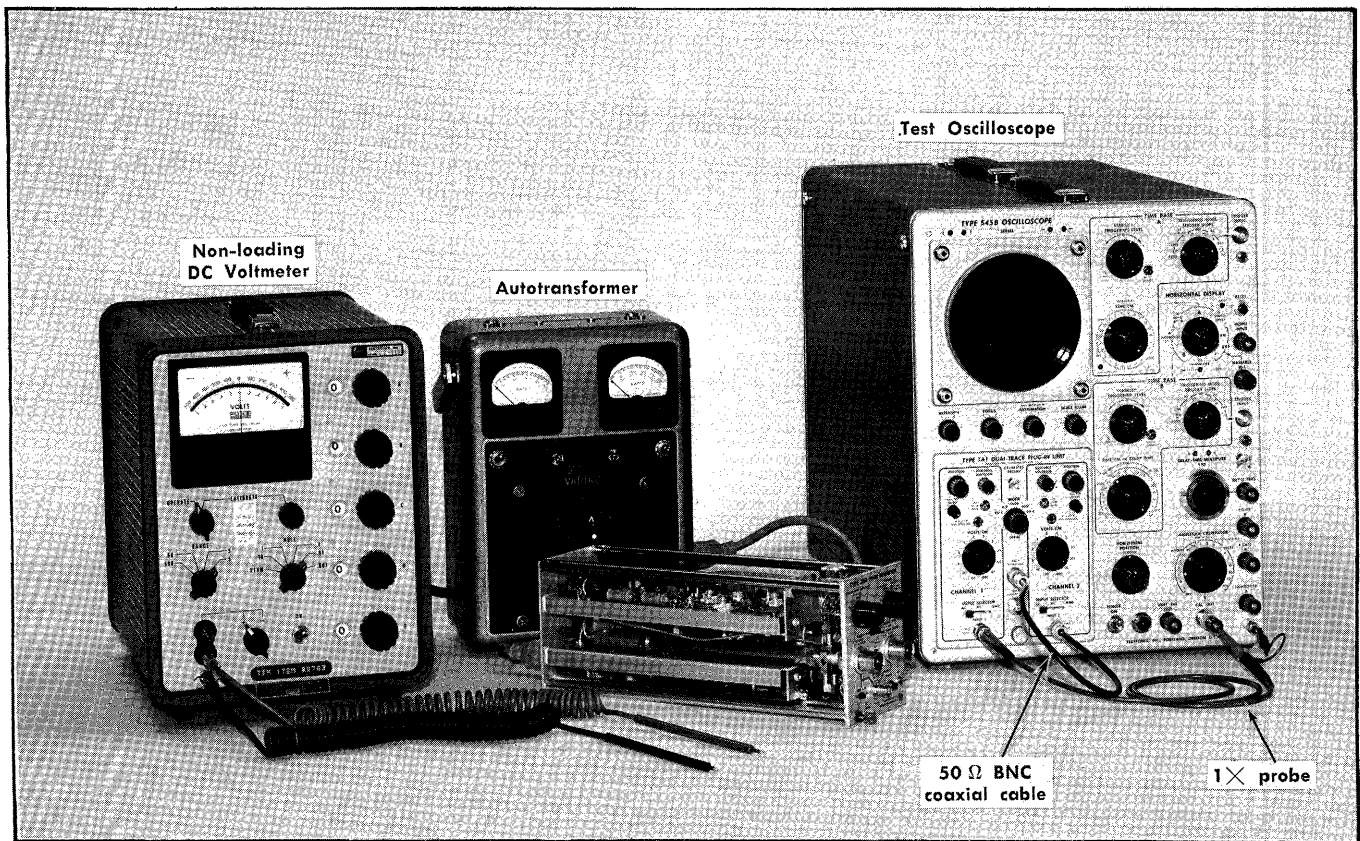

Fig. 6-3. Equipment setup for power supply checks, steps 1 through 3.
**1. Check or Adjust +20-Volt Power Supply****①**
a. Use the equipment setup shown in Fig. 6-3, and connect the nonloading DC voltmeter between +20 V, TP226, and ground, TP266. The power supply voltage test points and controls are shown in Fig. 6-4.
a. Equipment setup is shown in Fig. 6-3.